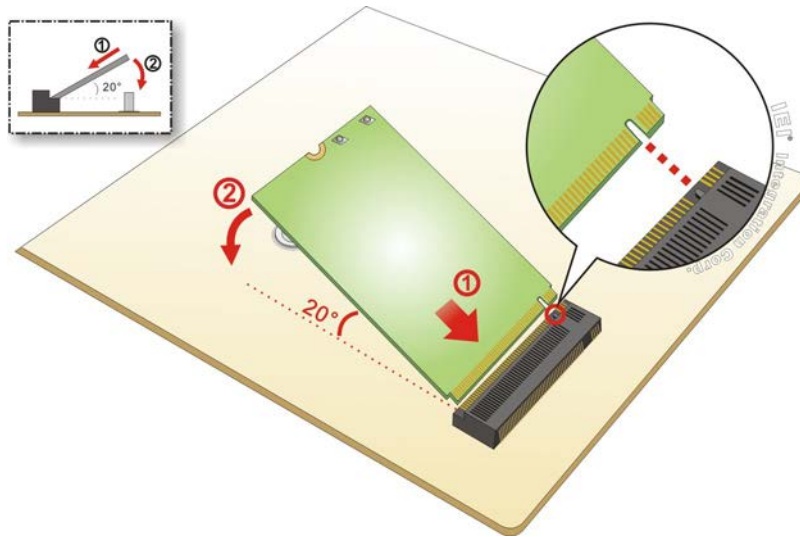

Figure 3-8: Inserting the WLAN Module
Step 4: Insert into the socket at an angle. Line up the notch on the WLAN module with the notch on the slot. Slide the WLAN module into the slot at an angle of about 20° (Figure 3-8).